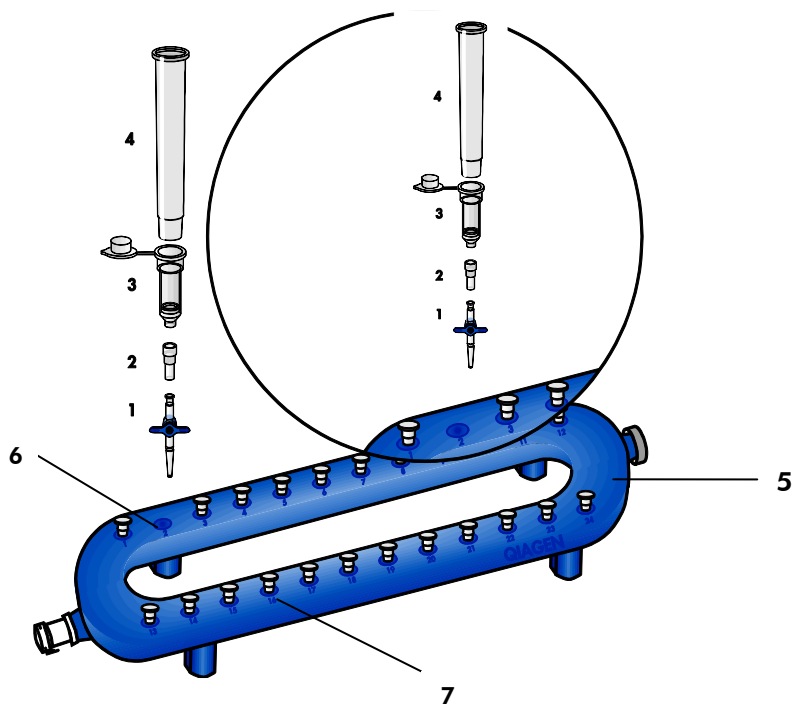

Figure 3. Setting up the QIAvac 24 Plus with QIAamp UCP Mini Columns using VacValves, VacConnectors, and 20 ml Tube Extenders.
- 2. Insert a VacValve (optional) into each luer slot of the QIAvac 24 Plus that is to be used (see Figure 3). Close unused luer slots with luer plugs or close the inserted VacValve.**
- 3. Insert a VacConnector into each VacValve (see Figure 3).**
- 4. Place the QIAamp UCP Mini Columns into the VacConnectors on the manifold (see Figure 3).**
- 5. Insert a tube extender (3 ml) into each QIAamp UCP Mini Column (see Figure 3).**